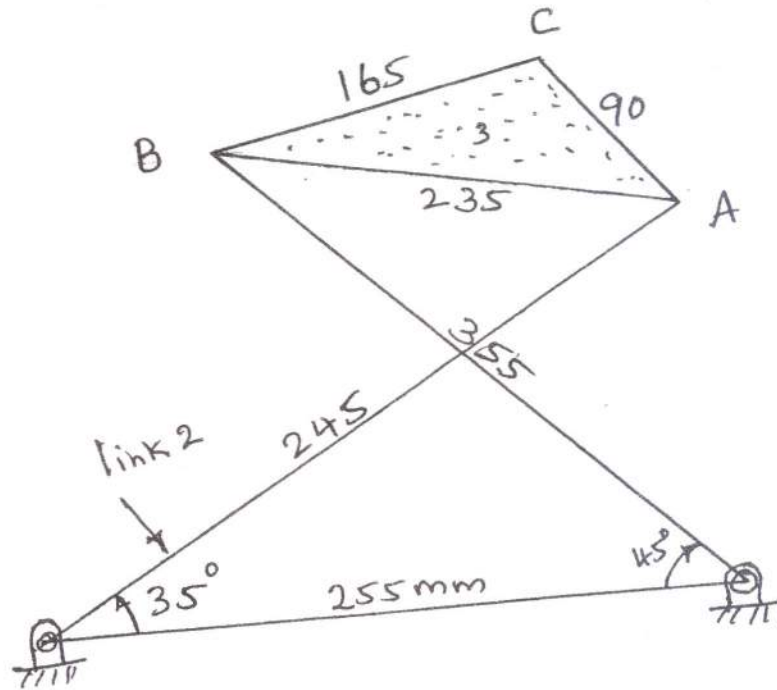

Fig. 2
2. Find the inflection circle for the motion of the link '3' of the mechanism shown in fig. 2 and determine the radius of curvature of the path traced by the point 'C'.